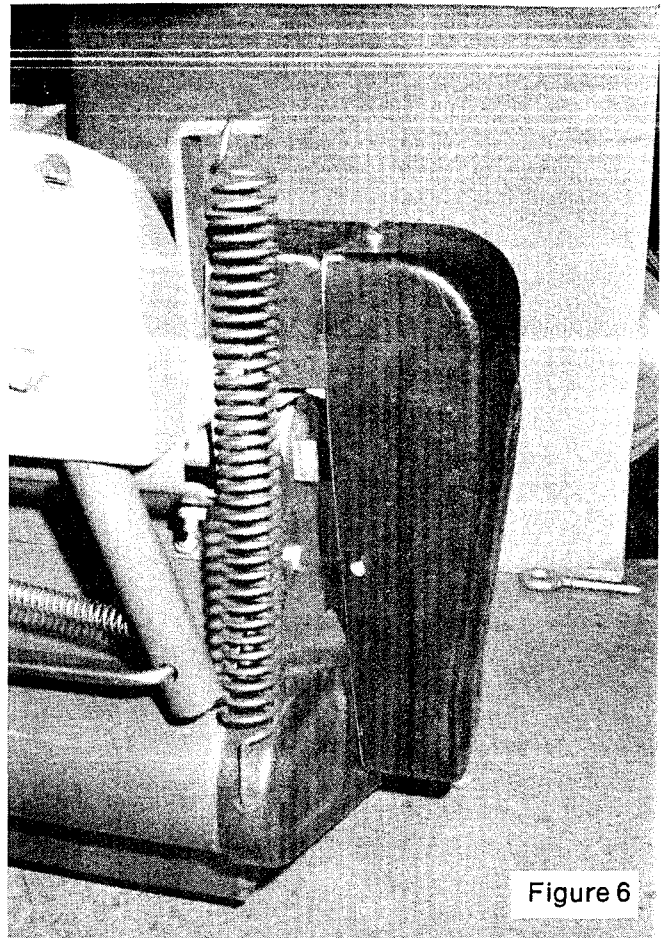

Figure 6
J) Take pivot bracket tie rod (113) and insert ends through front hole of pivot brackets (104 & 105) and upper hamper tubes (108). Assemble two lock washers (95) and two acorn nuts (92) loosely. Insert wind apron support rod (110) with two flat washers (69) into back hole of tubes (108).
K) Unroll wind apron (121) with U-rod (122) to the back and Velcro tapes on top, lay apron over hamper. Insert front-top tie rod (111) through lip on front of wind apron (121) with yellow threads to the right, install two nuts (67) and tighten to bottom of threads. Insert right end through hole in flat of tube (107) then through hole in flat of tube (108), repeat for opposite end.
L) Assemble one hamper stop (116) with one lock washer (95) and one acorn nut (92) to left end of the rod (111) finger tight only. On opposite end place one nut (67) and tighten it securely.
M) Position the auxiliary dump handle (118) on the right hand ends of tie rods (111 & 112). Assemble one hamper stop (116) with one lock washer (95) and one acorn nut (92) to the top rod (111). Assemble one lock washer (95) and one acorn nut (92) to bottom rod (112).
N) Place hamper assembly in hamper support pivot brackets (102 & 103) with hamper stop (116) on top of support tubes (100). Insert eyelet on dump cable assembly (117) through bracket assembly (23) under pulley and through two dump levers (119). Attach end to right side of rear top tie rod (126) with two flat washers (69), one spacer (125), one lock washer (95), and one acorn nut (92). Securely tighten all acorn nuts in hamper assembly at this time.
O) Insert ends of U-rod (109) into top support tubes (100) and align holes. Attach with two bolts (97), two lock washers (95), and two acorn nuts (92).
P) Rotate hamper to full dump position holding wind apron back over U-tube (109). Place two flat washers (69) on end of wind apron Urod. (122) and insert up through U-tube (109). Secure with two lock washers (95) and two acorn nuts (92). Slowly rotate hamper back to operating position and fasten Velcro tabs through openings in side panels.
Attach two lift assist springs (38) to front of unit as illustrated in figure. 6.
A.) Set height adjustment lever in lowest setting. Insert long end of spring (38) into hole in bumper assembly (13).